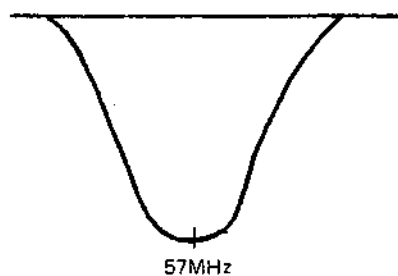

Fig. 20
5. Adjust the wave center to 57MHz with L9 (Fig. 20).